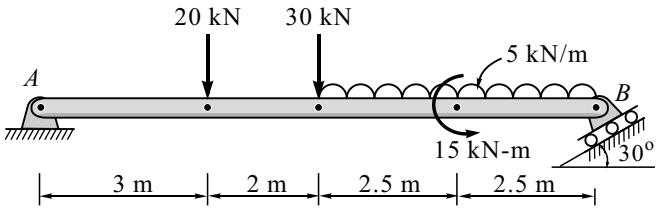

Fig. 3.E35
36. Determine the reactions at all the supports of the beam shown in Fig. 3.E36.